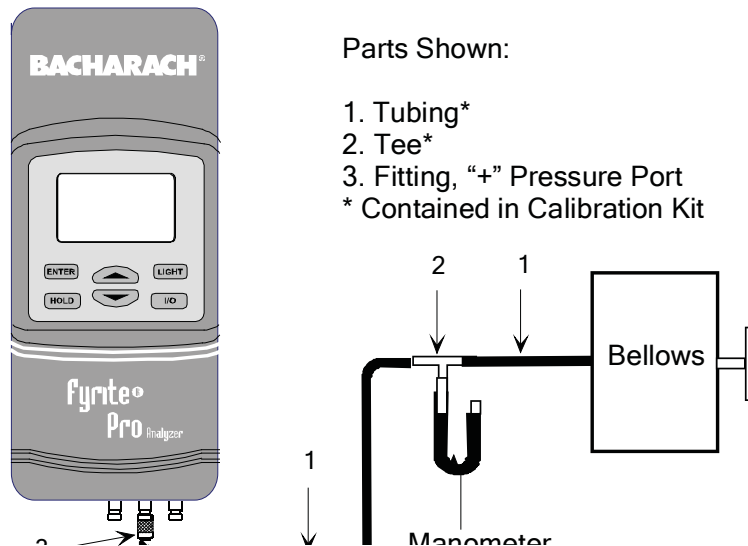

Figure 5-2. Draft Calibration Equipment
4. Set up the analyzer and its test equipment per Figure 5-2.